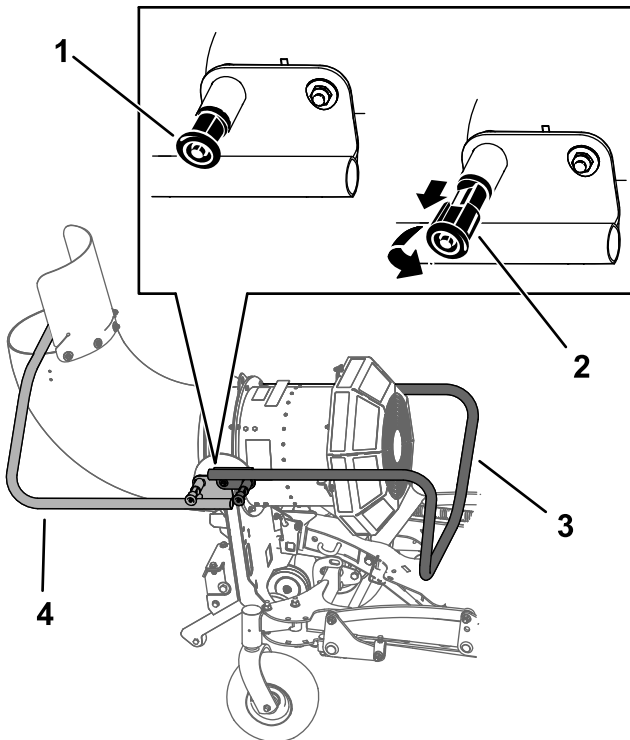

Figure 30
3. Pull out the kickstand locking pins on both sides of the machine, rotate them 90 degrees so that they are disengaged, and raise the kickstand (Figure 30). Engage the knobs and ensure that the pins snap into position.